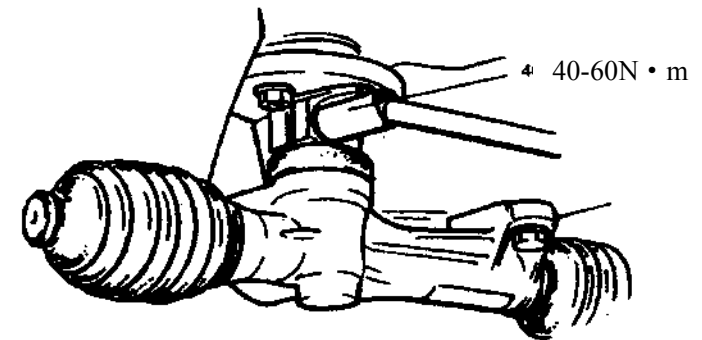

Fig. 3.6-10
6) Screw the gear shaft connector bolt to the specified torque. Please refer to Fig.3.6-10.